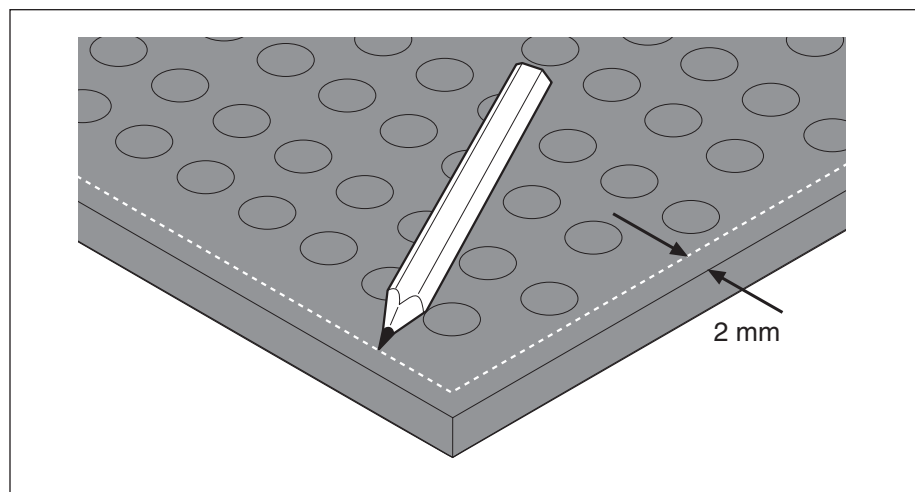

Fig. 5-6: Position the Safety Mats
- When installing further sides: Mark Safety Mat edge and align Z-profiles (see Fig. 5-6, pg. 12).
- When installing further sides: Align Z-profiles along the marking on the Safety Mat edge (see Fig. 5-6, pg. 12)
1. Mark the Safety Mats, e.g. with a ballpoint pen, at intervals of 2 mm from the outer edges of the Safety Mat system (see Fig. 5-6, pg. 12).